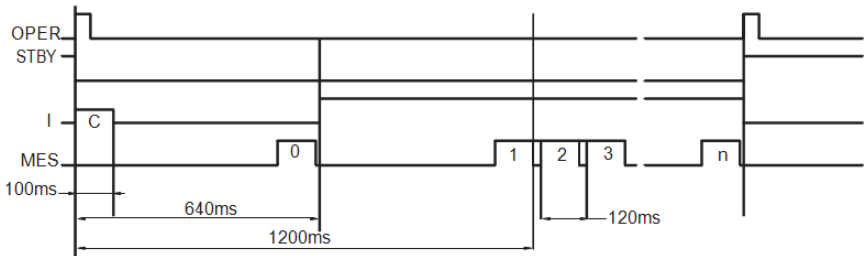

Figure 4-5
7. All subsequent measurements comprise only a  $V_n$  measurement as  $V_0$  remains in memory. The timing sequence for measurement is shown in Figure 4-5.